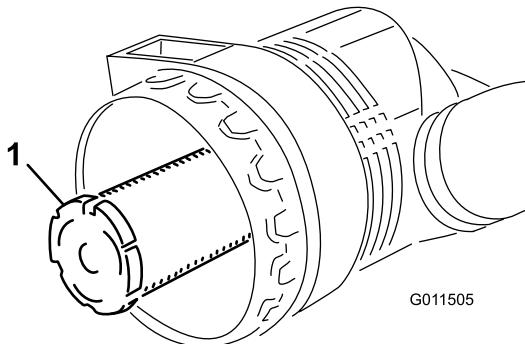

Figure 46
**Important:** Never attempt to clean the safety filter (Figure 46). Replace the safety filter after every 3 primary filter services.